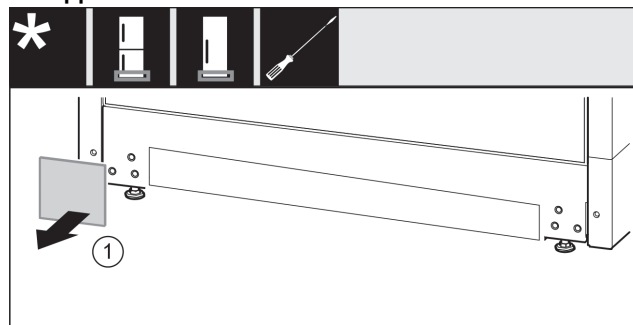

Fig. 14
- ▶ Remove the cover. Fig. 14 (1)